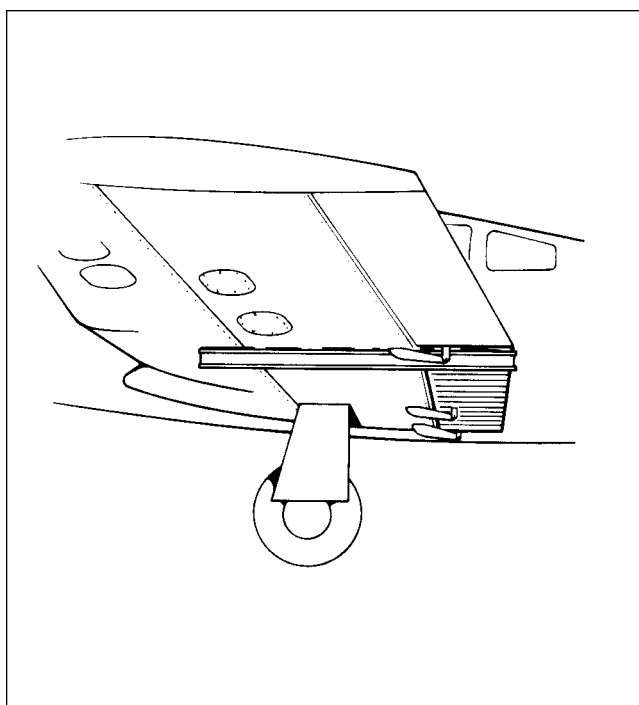
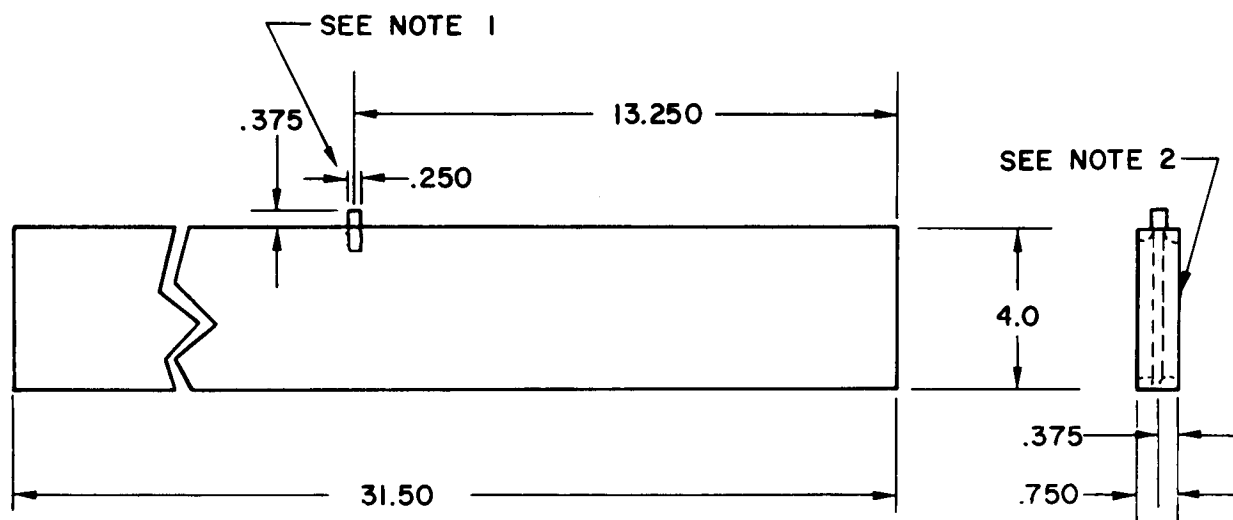

Figure 5-17. Flap Rigging Tool
Figure 5-19. Fabricated Aileron and Flap Rigging Tool
1. With the flap handle in the "flaps up" position, check the up-neutral position by placing the flap rigging tool (shown in Figure 5-17) against the bottom of the wing and each flap at a point as close as possible to the outboard end of the flap. Ensure that the tool is not contacting any rivets. This tool may be fabricated firm dimension data given in Figure 5-19.)